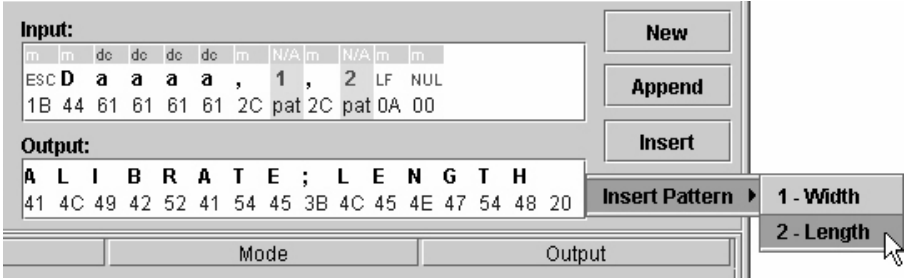

Figure 152. Entering the Output String
30. Right-click at the insertion point and select **Insert Pattern** ▶ **2 - Length**. See Figure 152.